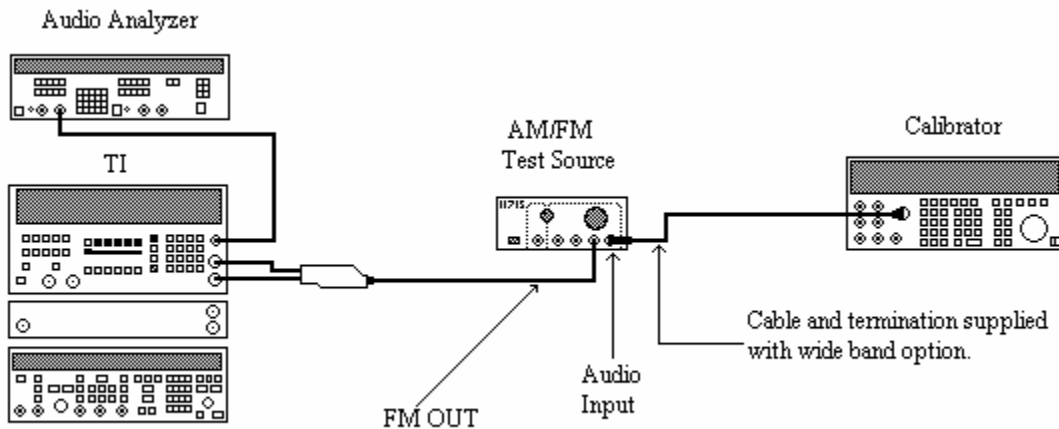

Figure 11. Phase modulation setup.
- (1) Press TI INSTR PRESET key.
- (2) Set AM/FM test source **TEST MODE** switch to **FM** and connect equipment as shown in figure 11 below.